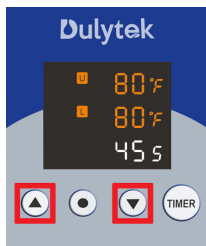

Fig. 6
6. Press Up **▲** or Down **▼** buttons to select the desired time in seconds (Fig. 6).